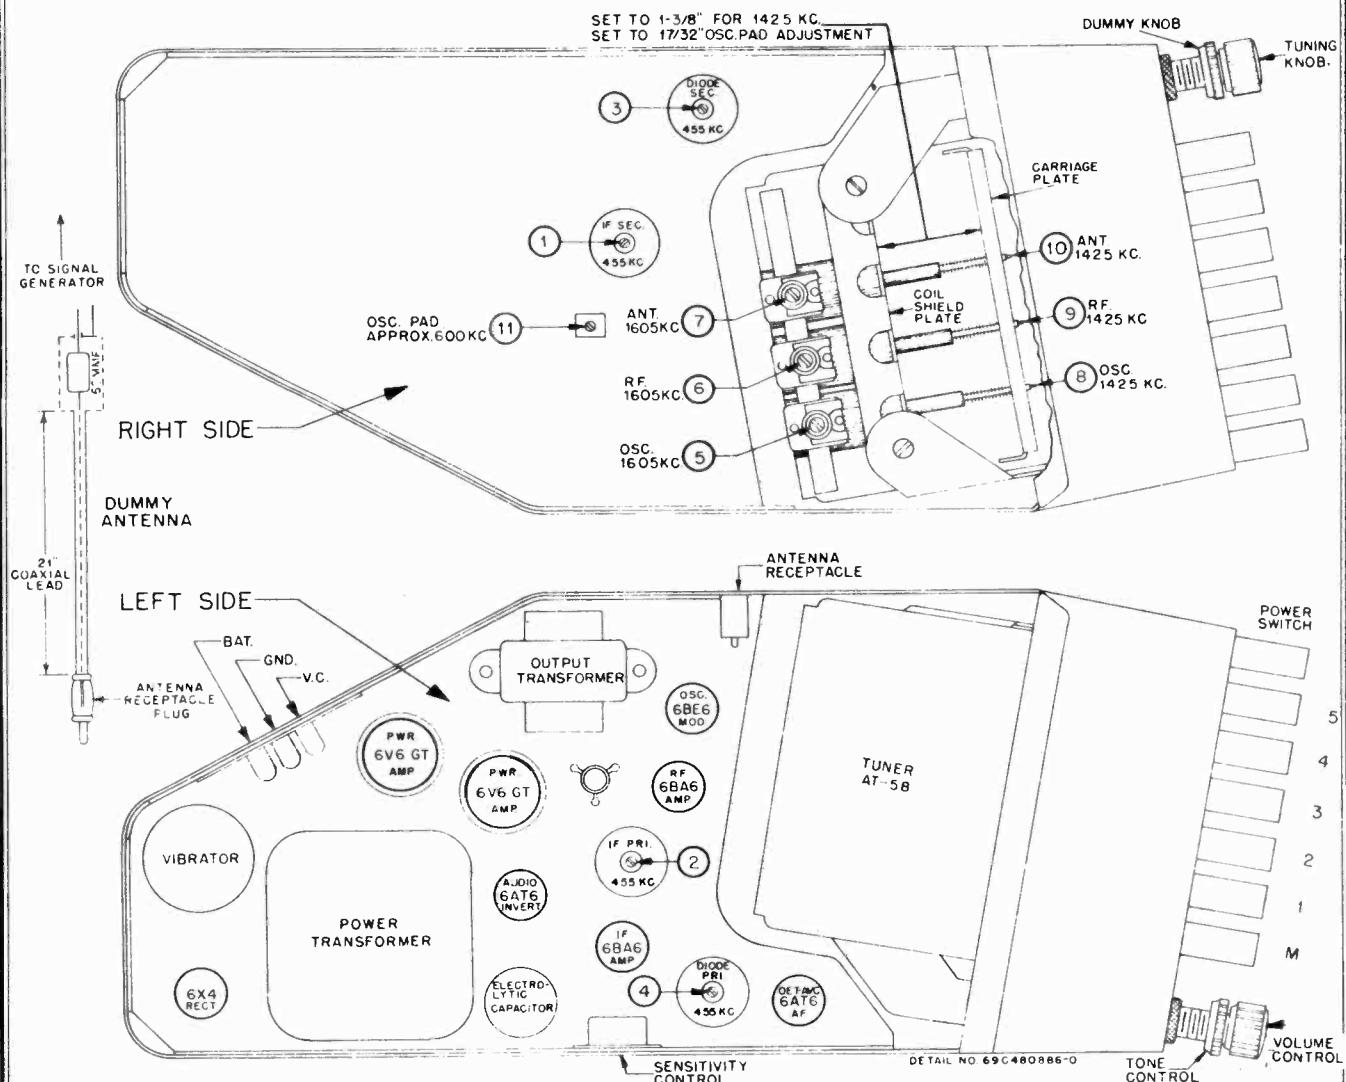

FIGURE 4. TUBE & TRIMMER LOCATIONS
- A special dummy antenna for RF alignment. Construct dummy antenna as shown in Figure 4. The 21" coaxial lead needed in its construction is the same type as used for lead-in on Motorola car antennas.